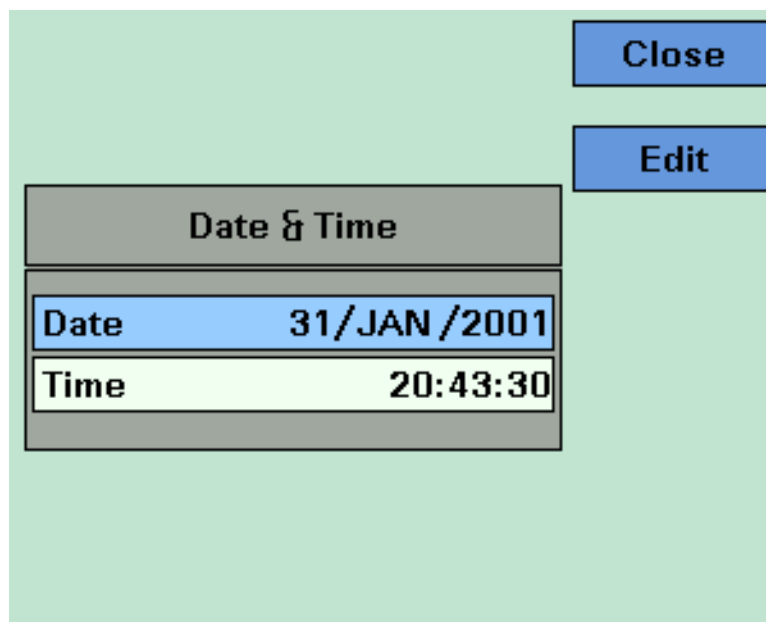

Figure 29 Editing the Date and the Time
- 2 Move to the *<Date & Time>* menu option and press *Enter*. You see a box, similar to Figure 29, displaying the current date and time settings.